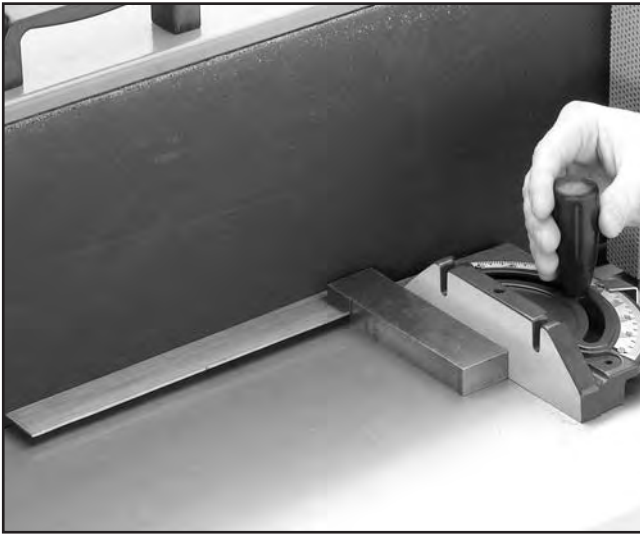

Figure 17. Setting miter gauge to 90°.
4. We recommend using a square to adjust and/or verify the miter gauge scale as shown in **Figure 17**.